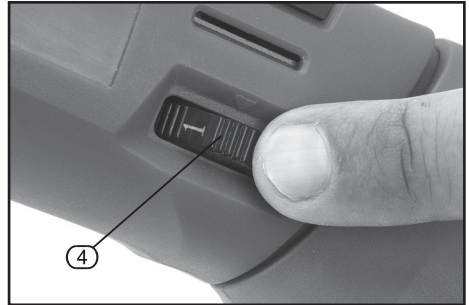

FIG.8
9.5 USING THE VARIABLE SPEED CONTROL – FIG. 8